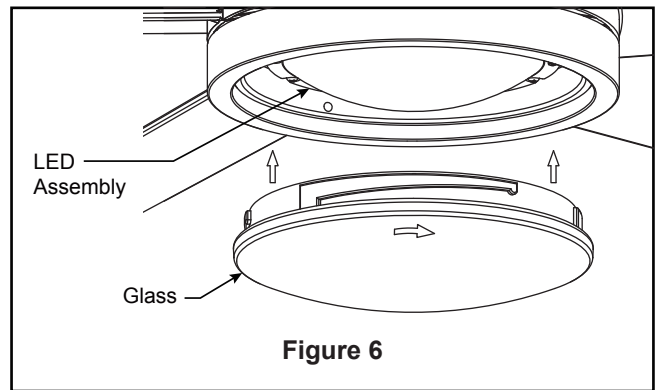

Figure 6
6. Reinstall the hanger ball on the downrod as follows. Route the wires through the hanger ball. Position the pin through the two holes in the downrod and align the hanger ball so the pin is captured in the groove in the top of the hanger ball. Pull the hanger ball up tight against the pin. Securely tighten the set screw in the hanger ball. A loose set screw could create fan wobble. (Figure 6)
6. Secure the glass to LED assembly by twisting in a clockwise direction. Twist the glass gradually **until it snaps onto the LED assembly**. Do not over-tighten. (Figure 6)
6. Replace battery cover on the remote control and secure with the previously removed screw. (Figure 6)
6. In the WiFi settings on your smart device, select the Fanimation_XXXXXX device and return to the fanSync WiFi APP and press "CONTINUE". (Figure 6)